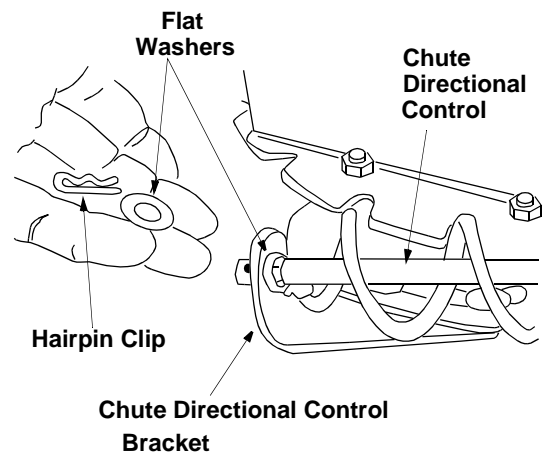

Figure 9
- Place one flat washer over the end of the chute directional control, then insert the end of the control into the hole in the plastic bushing in the chute directional control bracket. See Figure 9. Place second flat washer on chute directional control, and secure with hairpin clip.
- Adjust the chute directional control support bracket (see Figure 9) so that the spiral on the chute directional control fully engages the teeth on the chute assembly. Tighten the nuts on the chute directional control bracket securely. Tighten the hex nuts on the eyebolt.